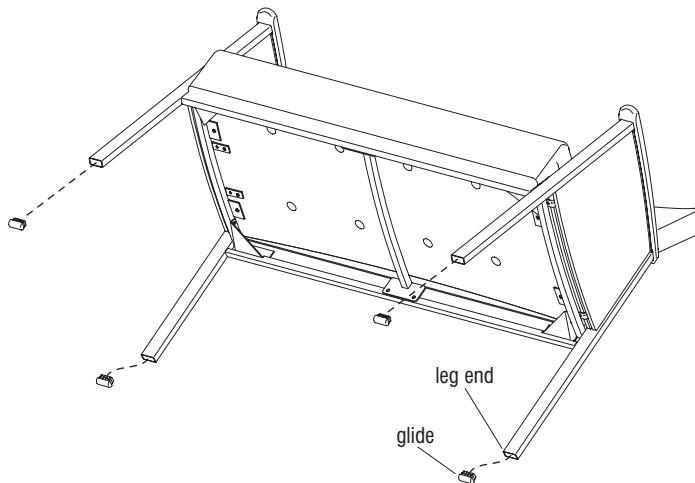

Figure 8
1. Place the seating unit onto its back on a soft, protective surface to expose the bottom of the chair and leg ends with glides (Figure 8).
2. Using a flat blade screwdriver, pry off the glides or any broken remnants on the leg ends (Figure 8).
3. Position the replacement glide over the desired leg end. Using a rubber mallet, gently tap the glide into the leg. Repeat the process for all glides to be installed (Figure 8).